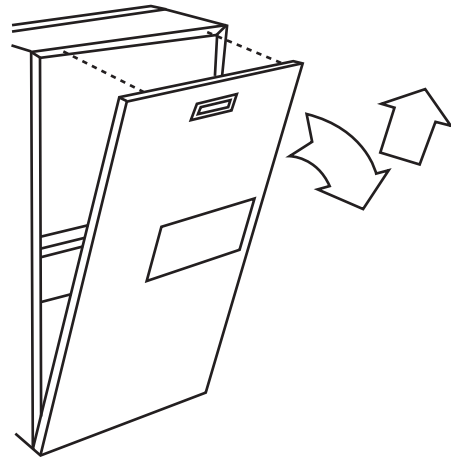

Fig. 9 - Remove Furnace Door
4. Remove the main furnace door. See Fig. 9.